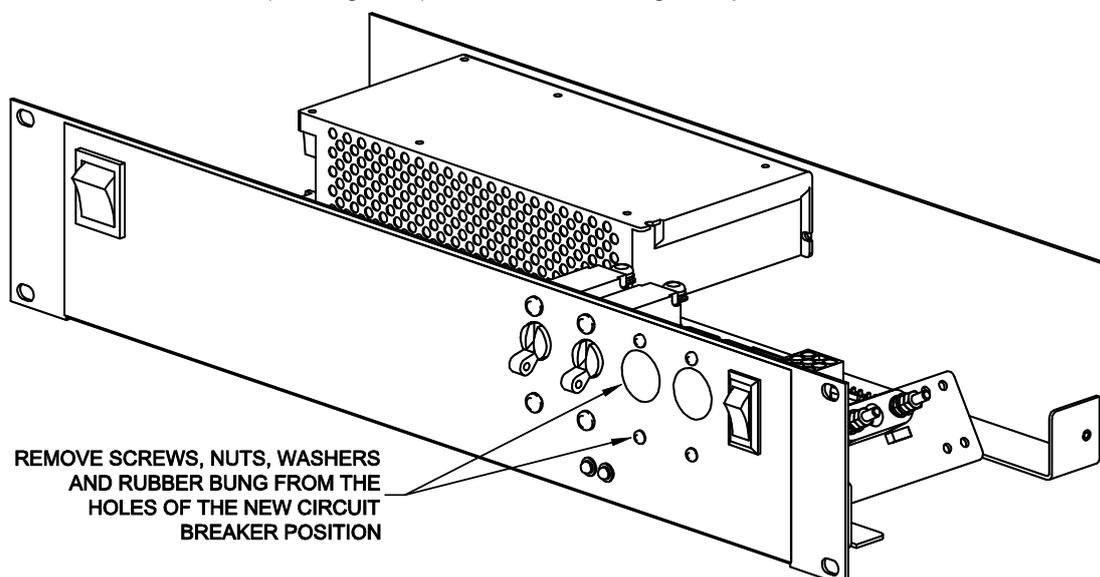

Figure 1 – Location of additional Circuit Breaker position(s)
4. Remove screws, nuts, washers and rubber bung from the spare Circuit Breaker position where you intend to fit the additional Circuit Breaker (see Figure 1). These are no longer required.